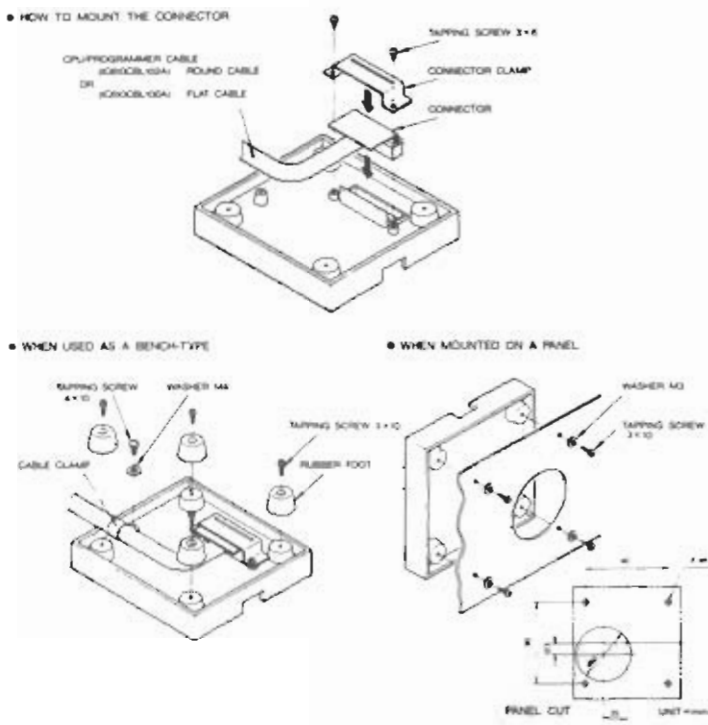

Figure 3.10 PROGRAMMER MOUNT ASSEMBLY
- 31. The Programmer Mount Assembly (catalog no. IC610PRG190) can be used when installing the programmer on the outside of a panel or console, or can be used as a table top stand for the programmer. Figure 3.10 shows how to install this assembly.